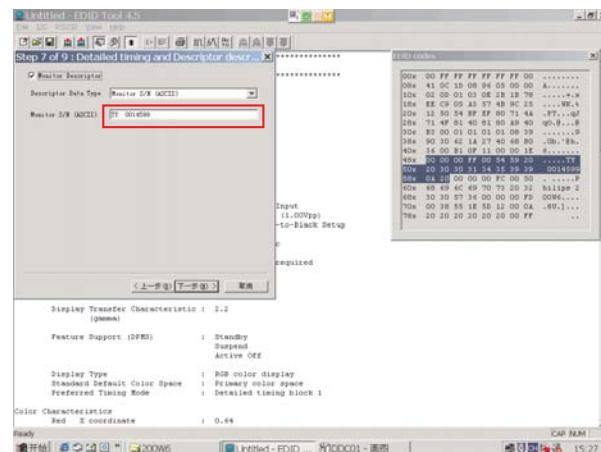

Fig. 16
1. Click Next to step7, bring up Fig. 16.